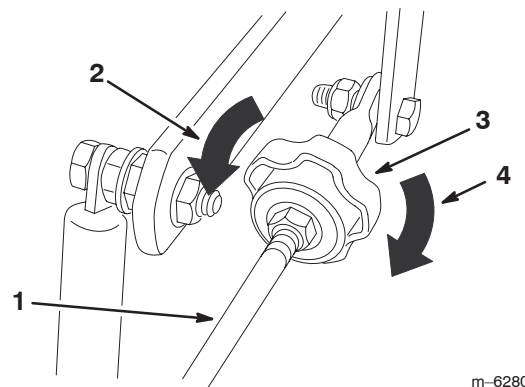

Figure 48
4. To make the machine move to the right, turn the knob toward the right side of the machine; refer to Figure 48.
- To make the machine move to the left, turn the knob toward the left side of the machine; refer to Figure 48.